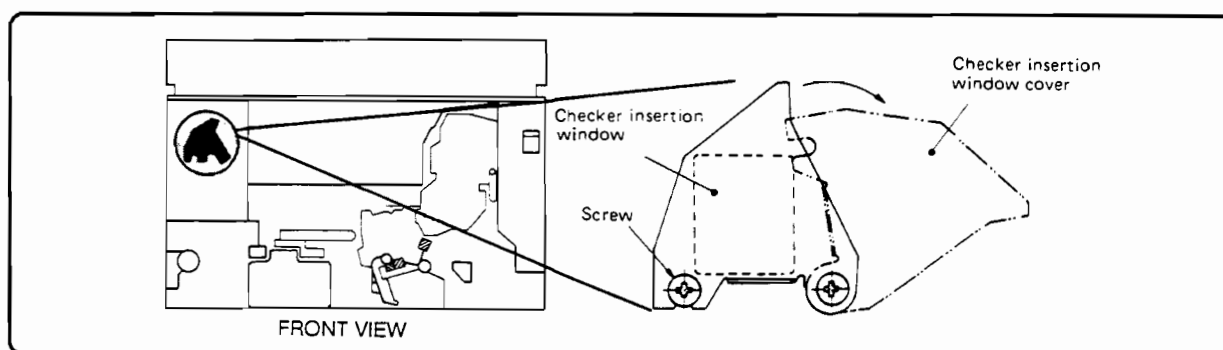

Figure 6-47. Laser Checker Insertion Window
6. Loosen the left screw on the laser power checker insertion window cover, then turn the cover clockwise to expose the insertion window (see Figure 6-47).